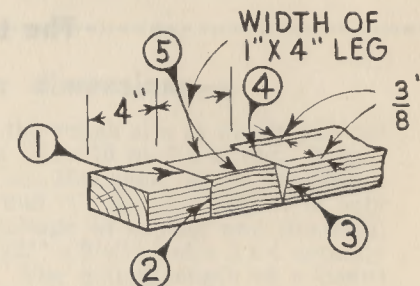

FIG.4 GAIN JOINT FOR RECEIVING LEG
Under another window on the north side is a storage cabinet for small machines and equipment. On top of this cabinet is the grinder, also a supply cabinet on the right for screws and nails (Fig. 4).
1. Lay out the bottom cut (1) as in Fig. I, using the figures 4 and 24 on the framing square to get the angle cuts. Measure the length $24\frac{5}{8}$ ", reverse the square and again use the figures 4 and 24 on the square to lay out the top cut (2), Fig. II.
4. Lay out the gain joints, Fig. IV, which will receive the legs. The legs of the saw horse are set back 4" at the top, causing the legs to set at an angle of 4" to 24" of height. Square a line (1) across the top side of the 2 x 4 four inches from the end. Lay out the angle cut (2) on both sides by holding the square to 4 and 24. Lay out the width of the leg and draw lines (3) and (4) on the top and edges of the 2 x 4. Gauge the line (5) $\frac{3}{8}$ " from the edge to complete the layout of the gain joint. Cut the gain joint by sawing along the lines and remove the wood with the chisel, from nothing at the bottom edge to $\frac{3}{8}$ " at the top.
6. The end pieces (A) are cut from the 1 x 10 piece. Be sure the grain of the wood will run across rather than up and down. Nail the end pieces in place with 8D nails so that the bottom of the legs will have a spread of 15". These end pieces should be nailed tight up against the 2 x 4.
7. Cut the tray bottom to length, measuring the length from outside to outside of the end pieces (A). Fit into place by cutting out for the legs, then nail to the end pieces (A).
8. Cut and nail in place the 1 x 2 tray side pieces (B), also the 1 x 2 tray supports (C).